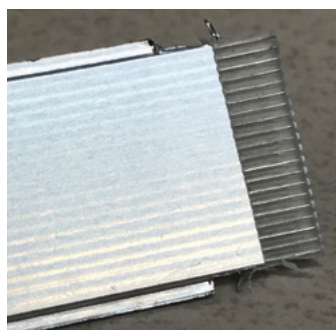

Figure 15
- Insulation around the conductors should not be pierced. See Figure 15.